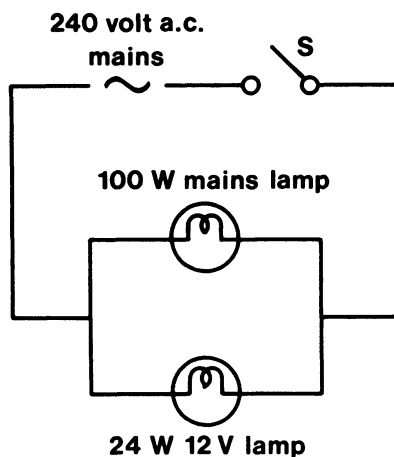

FIG. 3.2
2. The circuit shown in Fig. 3.2 is set up. What will happen to the lamps when the switch S is closed?